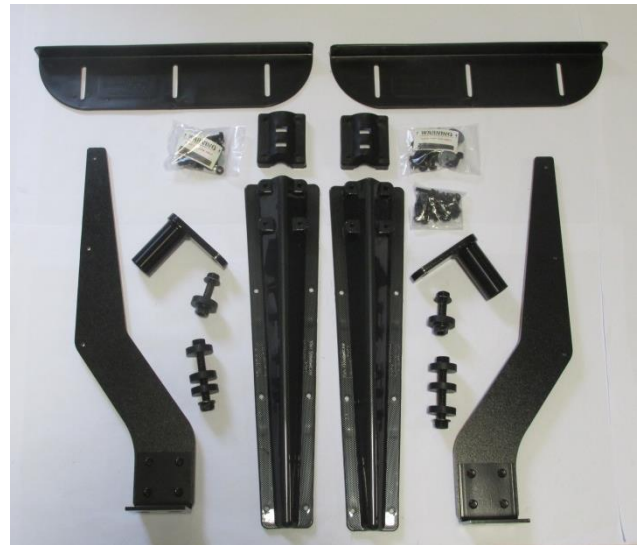

Figure 1
- B. Compare the parts with hardware kit B4850BTPA as shown in Figure 1.